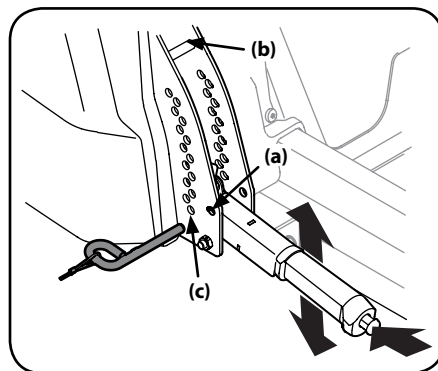

Figure 4-15
- a. Using the deck lift handle, raise the deck to the DECK REMOVAL/INSTALLATION POSITION (a). See Figure 4-15.
- d. Lower the deck into the DECK REMOVAL/INSTALLATION POSITION (a) using the deck lift handle. See Figure 4-15.
- e. Lower the deck into the DECK REMOVAL/INSTALLATION POSITION (a) using the deck lift handle. See Figure 4-15.
1. Place the deck lift handle in the highest mowing position (b). See Figure 4-15.